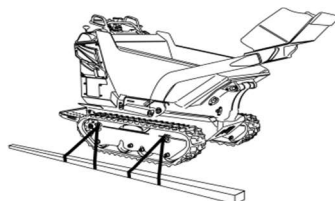

fig. 2.8 – Transport Anchor Points
- Secure it firmly to the transport vehicle's platform using strong CE-approved tie-down straps, always attaching them to the designated points shown in figure 2.8.